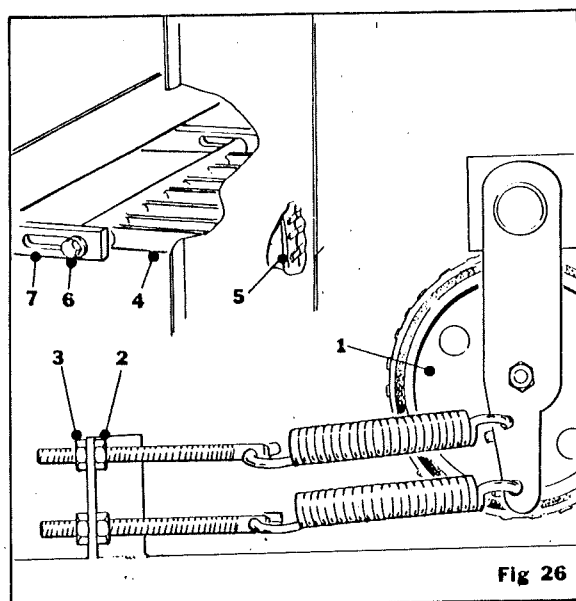

Fig 26
The tank feed elevator consists of a continental type web which is fitted with lats to transfer the beet from the cleaner to the tank. The web is tensioned by two large rollers (item 1 fig. 26). The tension of the web can be adjusted by loosening the lock nut (item 2 fig. 26) and turning the adjusting nut (item 3 fig. 26).
Fitted inside the elevator at the rear of the machine is a beet guide (item 4 fig. 26) which prevents the beet from rolling back down the web. The beet guide is adjustable. The position of the beet guide depends on the size of the beet, for large beet the guide should be positioned further away from the lat (item 5 fig. 26) compared with small beet, when the guide should be positioned closer to the lats.
The beet guide (item 4 fig. 26) can be adjusted by slackening the four retaining bolts (item 6 fig. 26) and sliding it within the slots (item 7 fig. 26). Again as the main and cross elevators, the tank feed elevator is fitted with the split type web sprocket, for fitting and removal see Main Elevator.